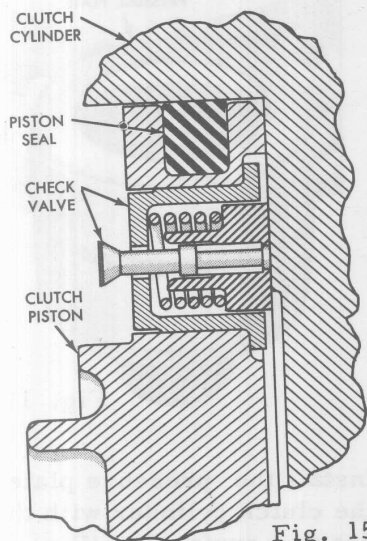

Fig. 15
- ☒ Remove the piston inner seal from the clutch housing (Fig. 15). Remove the piston outer seal from the groove in the piston (Fig. 15).
Inspect the piston check valve for freedom of movement and correct seating (Fig. 15).
- ☒ Lubricate all parts with transmission fluid. Install a new piston inner seal ring in the clutch cylinder. Install a new piston outer seal in the groove in the piston. (Fig. 15).